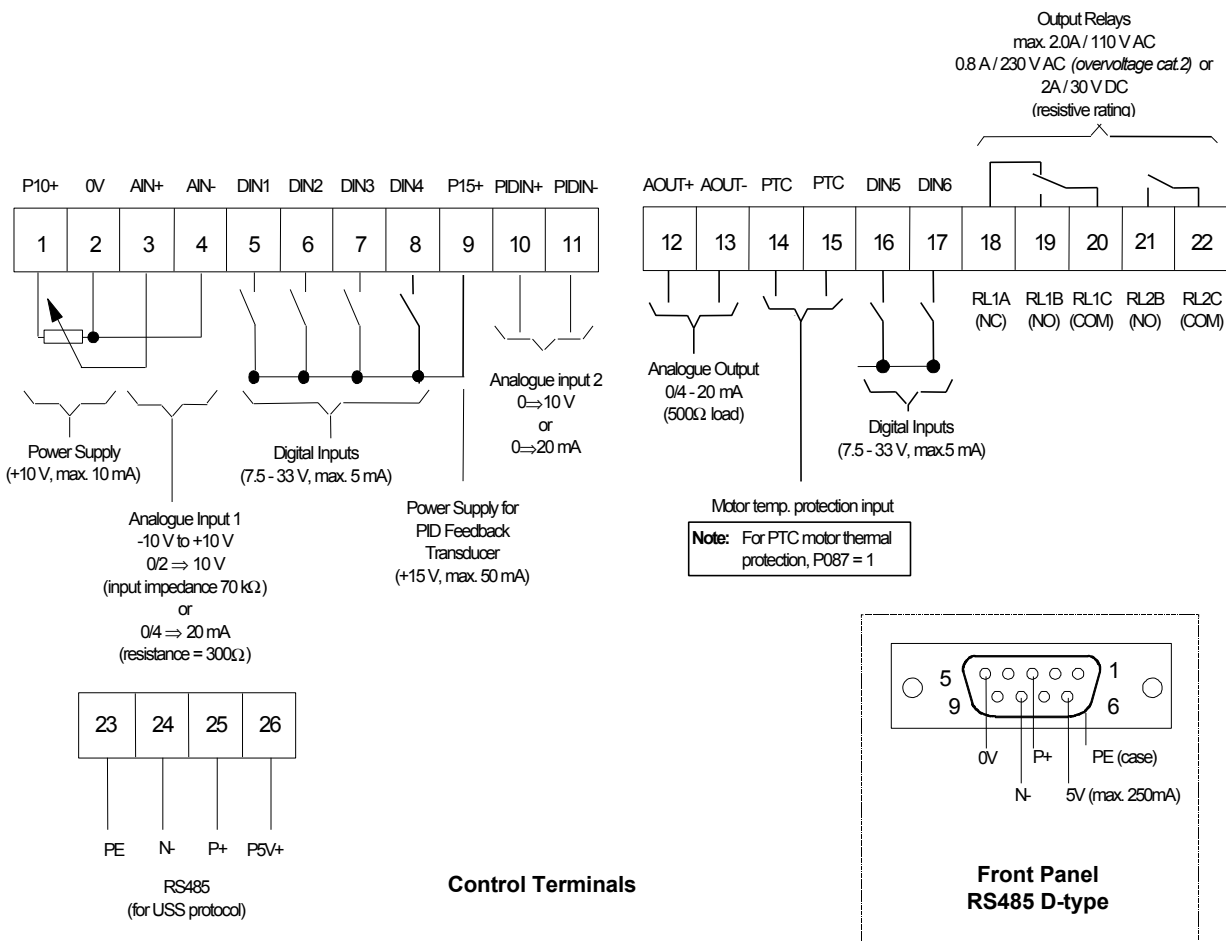

Figure 2.2.4: Control Connections - MICROMASTER Vector
A small bladed screwdriver, max. 3.5 mm will be required to operate the control terminal WAGO cable clamp connectors as shown in Figure 2.2.4.
**Note:** These connections have to be made with the inverter dismantled from the mounting surface. Care must be taken routing the leads through the moulded clips to prevent trapping and chafing when the unit is mounted and secured to the selected surface. Connect the control leads as shown in Figures 2.2.4 and 2.2.6.
15. Connect the control leads as shown in Figures 2.2.4 and 2.2.6.
11. Connect the control leads as shown in Figures 2.2.4 and 2.2.6